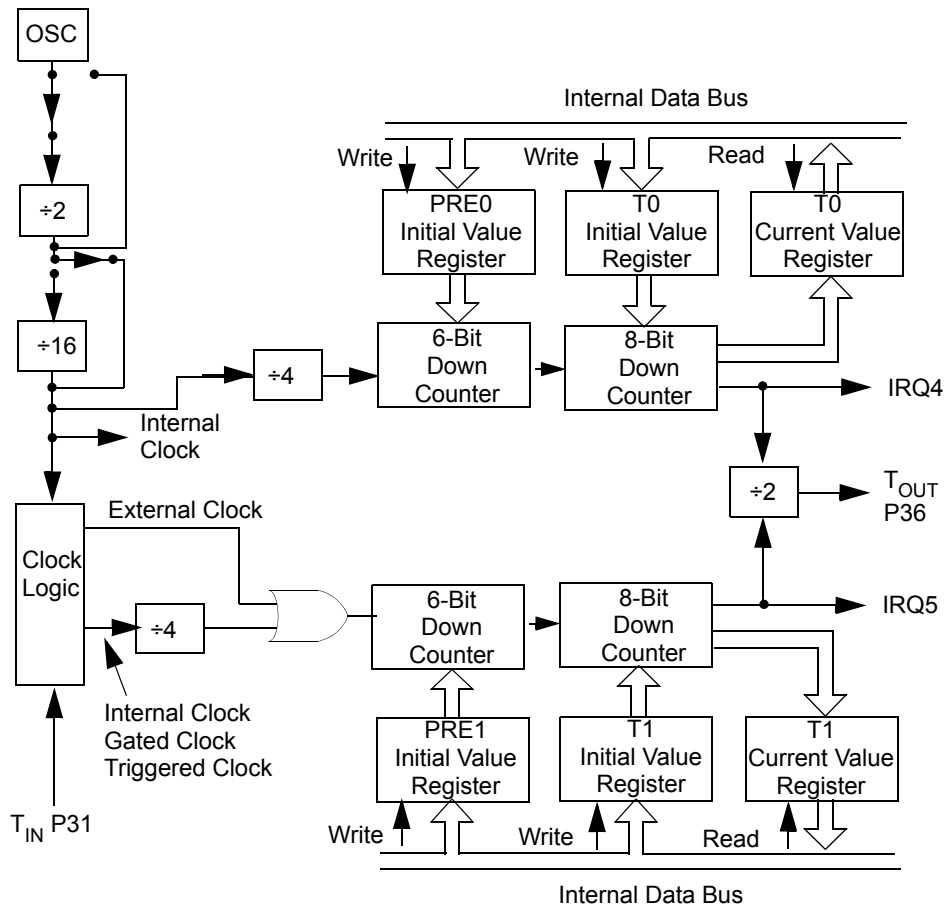

**Figure 23. Data Memory Map**
**Data Memory (DM).** In ROM Mode, the Z86E43/743/E44 can address up to 60156/48 KB of external data memory beginning at location 4096/8192/16384. In ROMless mode, the Z86E43/743/E44 can address up to 64 KB of data memory. External data memory may be included with, or separated from, the external program memory space.  $\overline{DM}$ , an optional I/O function that can be programmed to appear on pin P34, is used to distinguish between data and program memory space (Figure 23). The state of the  $\overline{DM}$  signal is controlled by the type of instruction being executed. An LDC opcode references PROGRAM ( $\overline{DM}$  inactive) memory, and an LDE instruction references data ( $\overline{DM}$  active Low) memory.